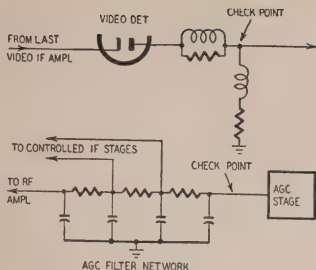

Fig. 2—Video detector and age voltage check points.
1. **Dc voltage checks at the video detector load and age line** Dc voltage checks should be made at the video detector load and age line (Fig. 2), first with the set tuned to an active channel, then with the set turned to an inactive channel.